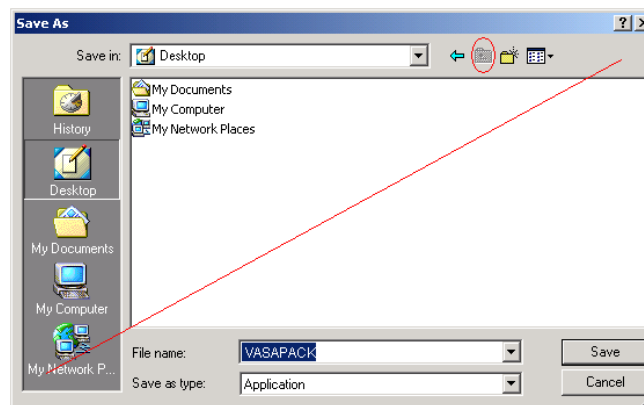

Figure 4: Locate Desktop with Up Folder
Step 4: You want to get **Desktop** next to the **Save in:** as shown in figure 4. Click on the up directory icon circled in figure 4 until **Desktop** is shown. If you are stuck at this point, seek help from your local system administrator.